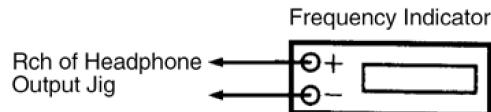

Fig. 10
- 3. Adjust the motor screw so that the following output level is produced. (Fig. 10)